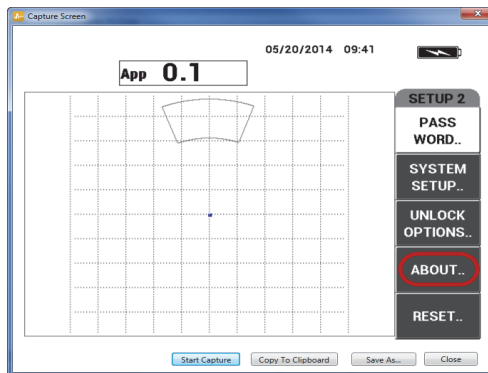

Figure 7-3 The ABOUT menu
2. Press the D key to select the **ABOUT** menu (see Figure 7-3 on page 183).